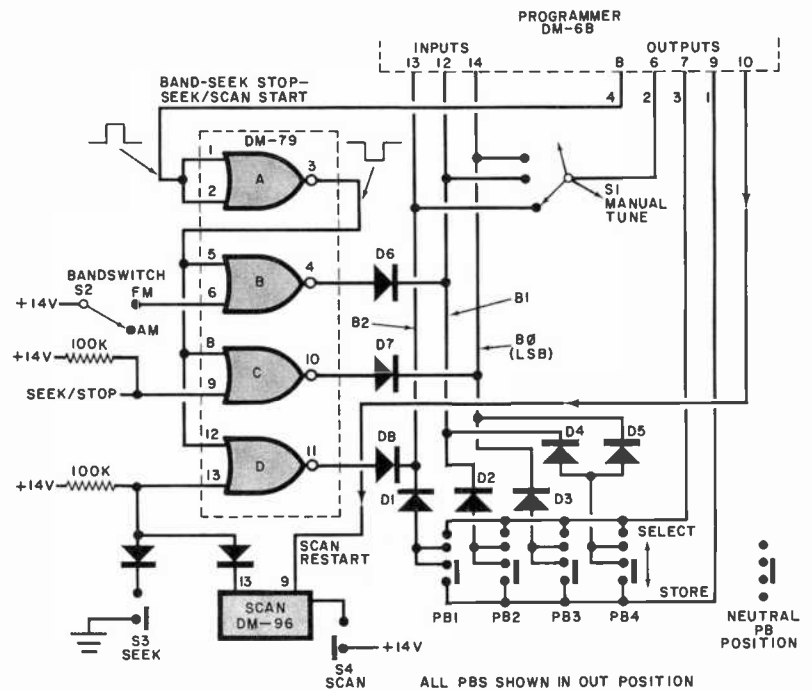

Fig. 2. Schematic of the DM-68 digital programmer control circuits that produce the different modes of operation. It has 3-bit input and 4-bit output buses.
The DM-68 control circuits that produce the different modes of operation are shown in Fig. 2. There are two data buses—a 3-bit input and a 4-bit output bus. The output bus lines are normally low. They go high in sequence (see Fig.
Fig. 4. Schematic of the AM stop circuit, when the output of the comparator made up of one fourth of DM-87 goes high, Q4 turns on to stop the seeker by supplying a signal back to NOR gate C in IC DM-79 in Fig. 2.
Fig. 5. The FM stop circuit is also tied back to the NOR gate in Fig. 2. It uses three comparators to determine if certain conditions have been met before stopping the seeking action.
**Stop Circuits.** The AM and FM stop circuits are shown in Figs. 4 and 5, respectively. In both cases, transistor Q4 is the seek/stop switch that is connected to NOR gate C in Fig. 2. The collector of Q4 goes to ground when a stop command is issued but remains high at all other times.